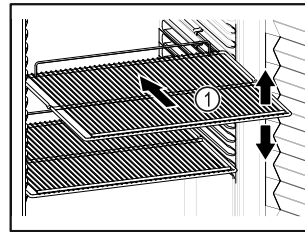

Fig. 61 Example illustration
- If there are adjustable shelves Fig. 61 (1), position them as required.